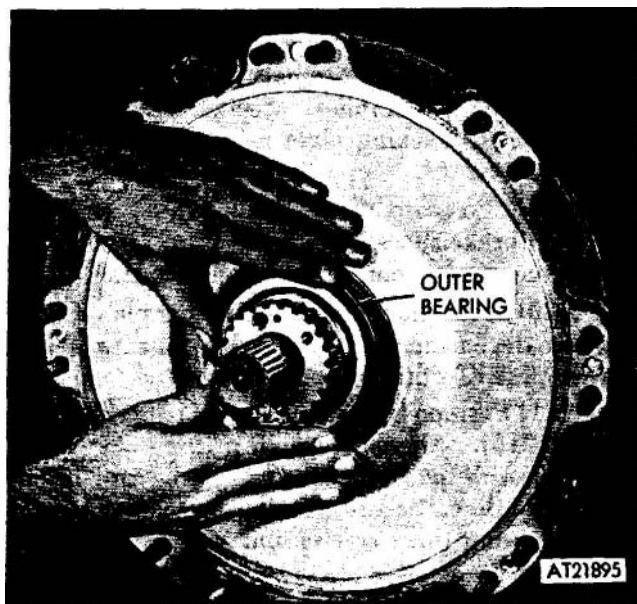

Figure 2-242. Outer bearing installation.
(11) Turn hub over and install forward bearing cup and seal wiper in the same manner as in 9 and 10 above.
(12) Position hub over spindle and install outer bearing (fig 2-242).